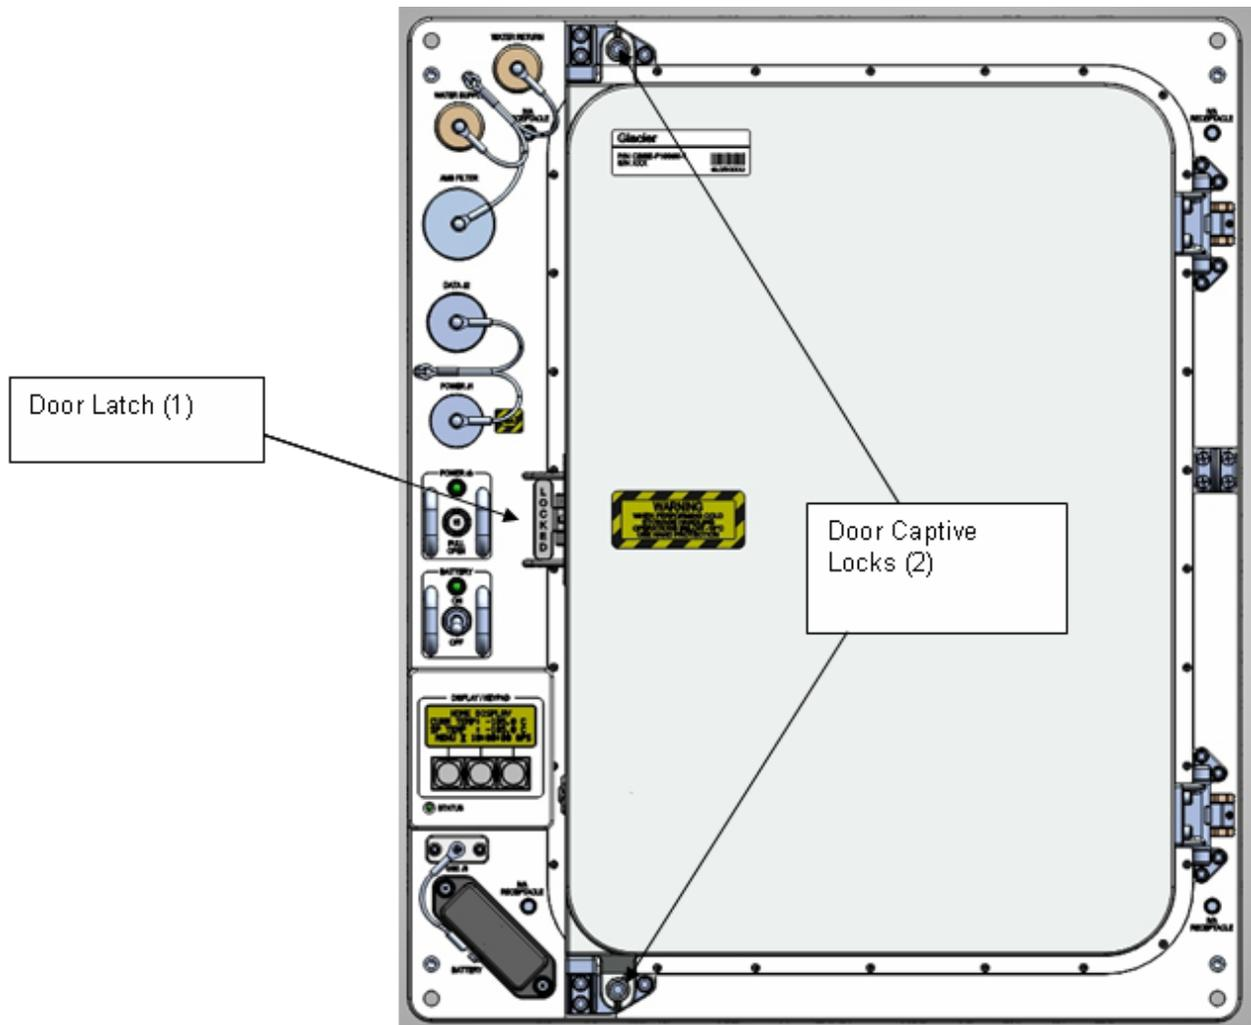

Figure 1. Glacier Configuration
- 1.1 Unlock Glacier Door Captive Locks (two) using 3/16" Hex Head, 3/8" Drive; 1/4"-3/8" Adapter; 4" Ext, 1/4" Drive; Ratchet, 1/4" Drive. See Figure 1 Glacier Configuration.